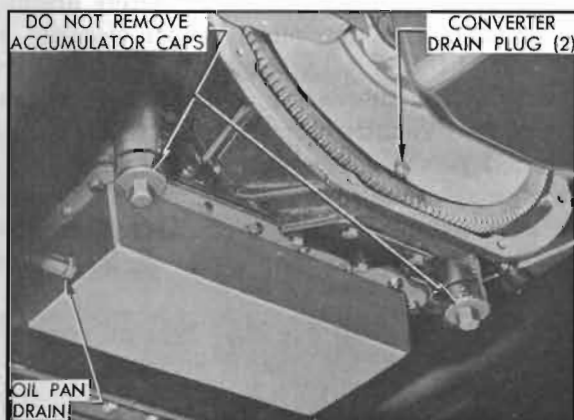

Figure 1-14—Dynaflo Transmission Drain Plugs
2. Loosen one converter drain plug, through opening in flywheel, then turn flywheel until opposite drain plug is straight down and remove this plug to allow converter to drain completely. See figure 1-14.
3. Remove filler pipe fitting from oil pan and allow oil pan to drain completely. *Do not remove accumulator caps.* See figure 1-14.
5. Put $2\frac{1}{2}$ quarts of specified oil (subpar. a.) in transmission. With engine idling and transmission in Parking (P) complete the refilling to bring oil level to $1\frac{3}{4}$ " below "FULL" mark on gauge rod. When transmission oil is warmed up, the oil level should then be at "FULL" mark on gauge rod.